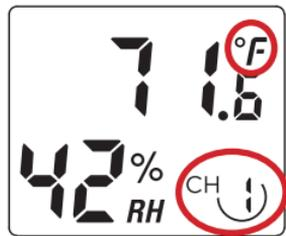

Figure 4
6. Verify the correct channel number (CH) and temperature units of measure (°F vs.°C) are on the display, as shown in Figure 4.